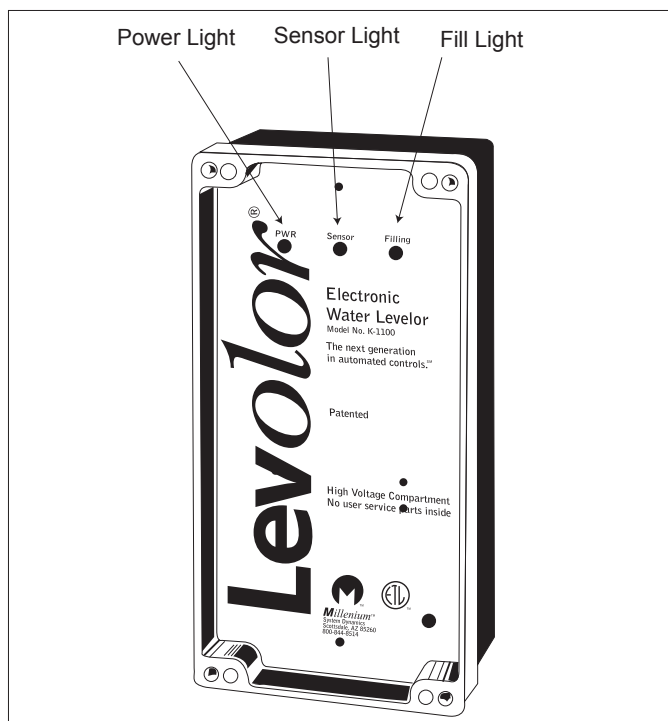
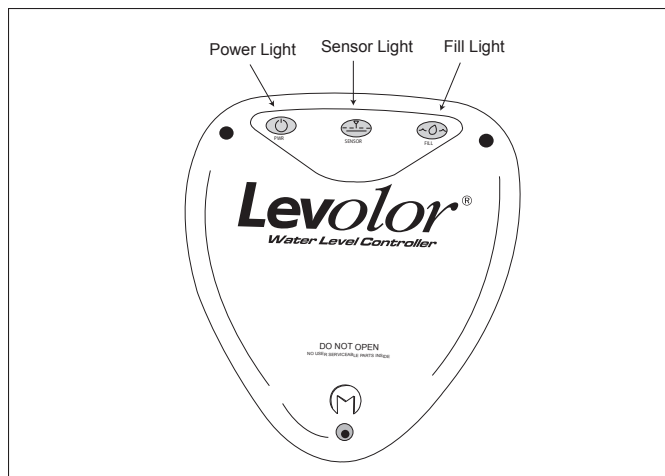

Figure 23. K-1100 Controller Lights
Figure 24. LX2 Controller Lights
- c. Screw the threaded sensor into a one (1) inch threaded coupling. See Figure 23.
The controllers for the K-1100 (See Figure 23) and the LX2 (See Figure 24) each have three (3) lights.